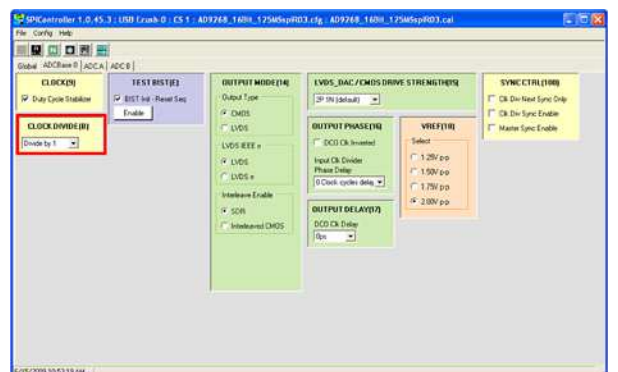
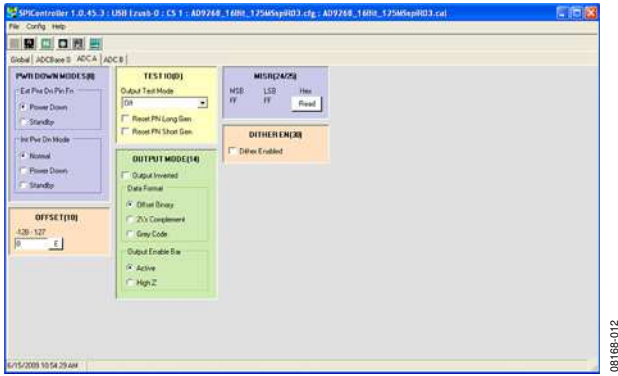

Figure 12. SPI Controller, CLOCK DIVIDE(B) Box
Figure 13. SPI Controller, Example ADC A Page
3. In the **ADCBASE 0** tab of the **SPIController** window, find the **CLOCK DIVIDE(B)** box (see Figure 12). If using the clock divider, use the drop-down box to select the correct clock divide ratio, if necessary. See the appropriate part data sheet; the **AN-878** Application Note, *High Speed ADC SPI Control Software*; and the **AN-877** Application Note, *Interfacing to High Speed ADCs via SPI*, for additional information.
- Note that other settings can be changed on the **ADCBase 0** page (see Figure 12) and the **ADC A** and **ADC B** pages (see Figure 13) to set up the part in the desired mode. The **ADCBase 0** page settings affect the entire part, whereas the settings on the **ADC A** and **ADC B** pages affect the selected channel only. See the appropriate part data sheet; the AN-878 Application Note, *High Speed ADC SPI Control Software*; and the AN-877 Application Note, *Interfacing to High Speed ADCs via SPI*, for additional information on the available settings.